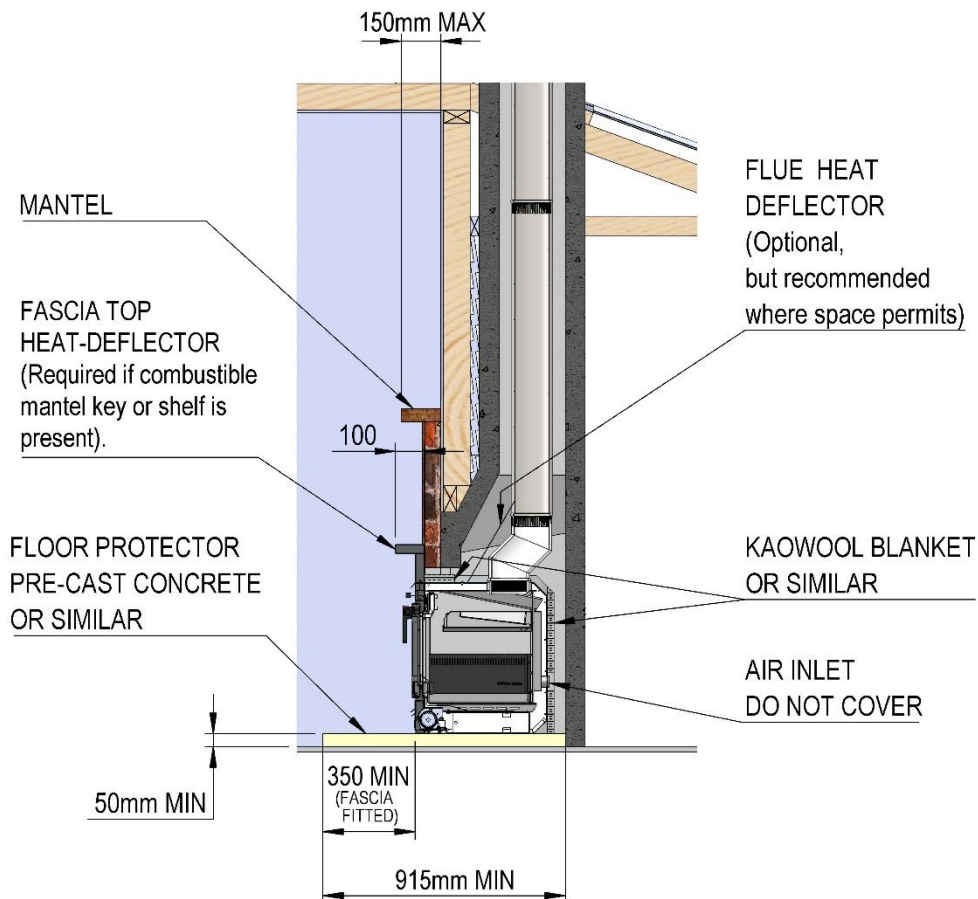

Fig. 6
- N1.** The floor protector extension from the unit (Fig. 6) can be reduced if the unit is elevated. (Table 2) Measurements taken from the front of the (35mm thick) fascia.